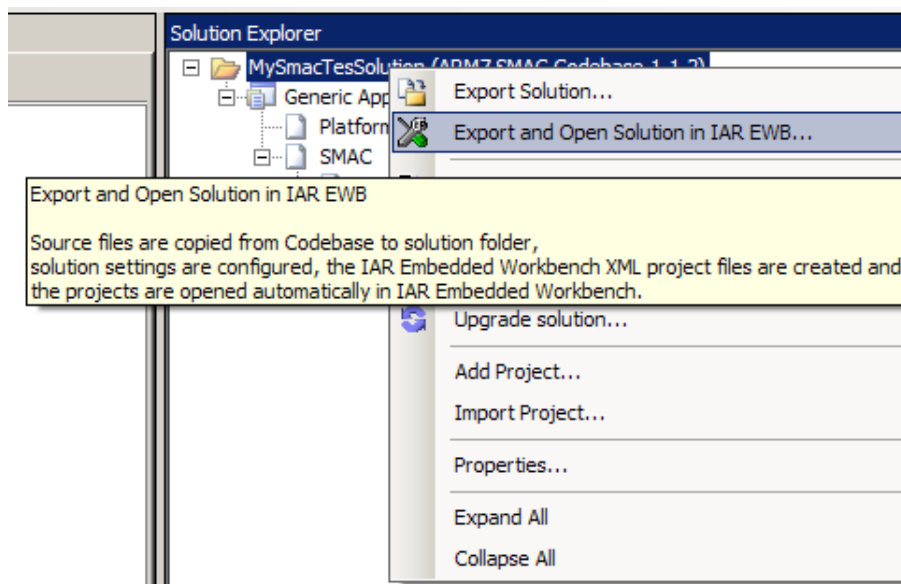

Figure 1-6. Exporting a Solution
7. Users must now export the solution as shown in Figure 1-6.